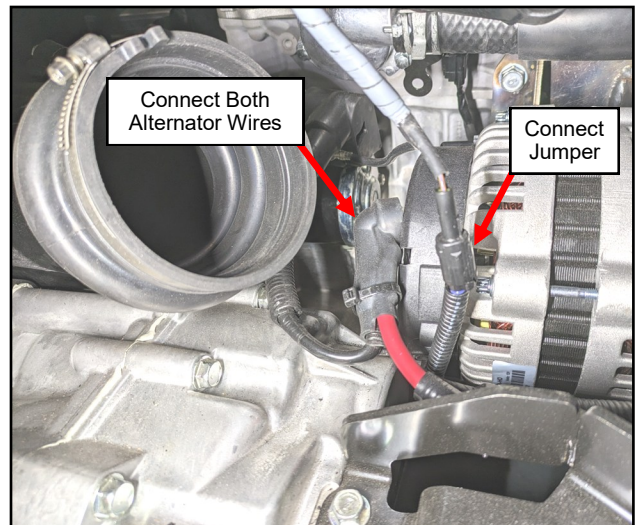

Fig. 4.7 (Connect Alternator Wires and Signal Jumper)
- 4.7 Connect the new and OEM alternator wires together onto the alternator stud. Also connect the alternator signal jumper wire to the OEM alternator signal wire. See figure 4.7.